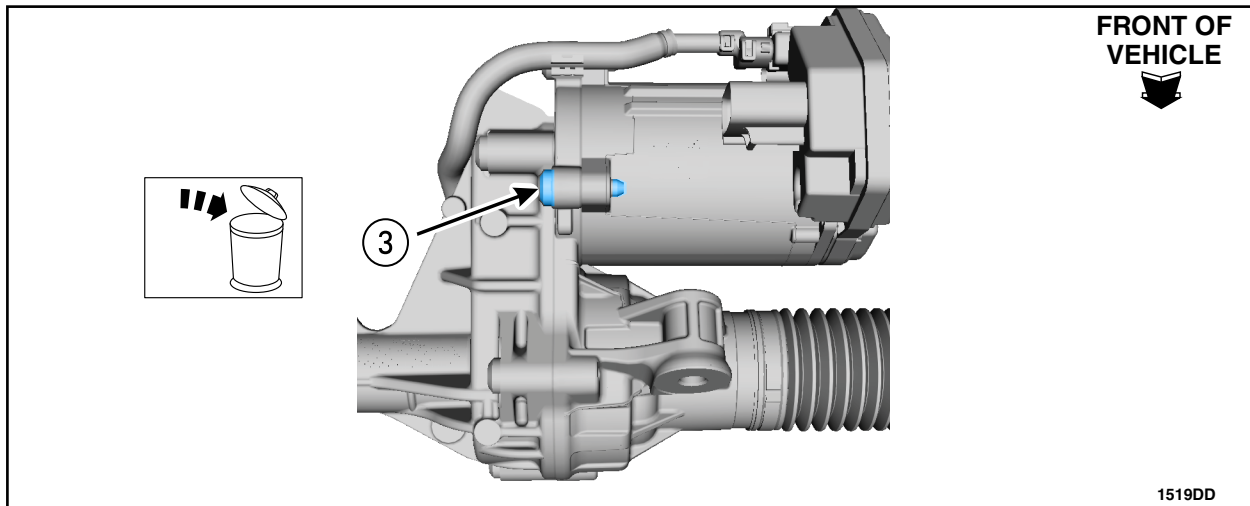

FIGURE 12
2. Working from the rear of the subframe, replace steering gear motor bolt three, then proceed to "Apply Corrosion Protection" on Page 7. See Figures 12 and 13.